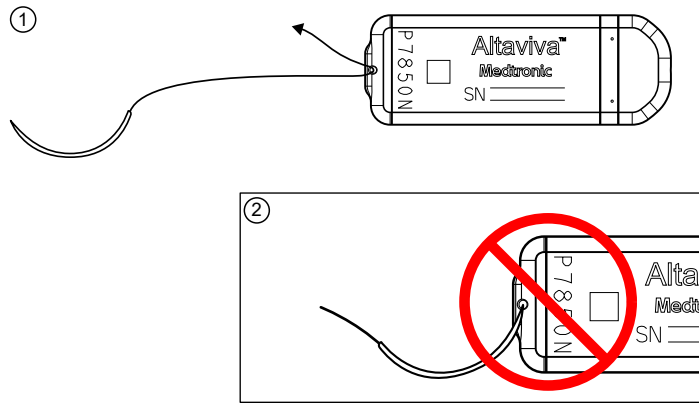

Figure 13. Preplace a loop of suture through the suture hole on the INS.
6. Preplace a loop of 2-0 nonabsorbable suture at the proximal end of the neurostimulator by passing the open end of the suture through the suture hole on the INS and leave untied (Figure 13). The suture is used to aid in removing the device from the pocket if repositioning is required, and to optionally secure the INS to the fascia for fixation.